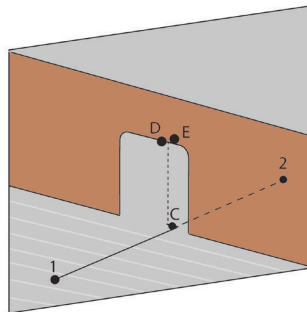

Figure 21
6. If the distance D to E $< 1/16''$ for a 10' doorway, your plumb accuracy is within specification. (Figure 21)